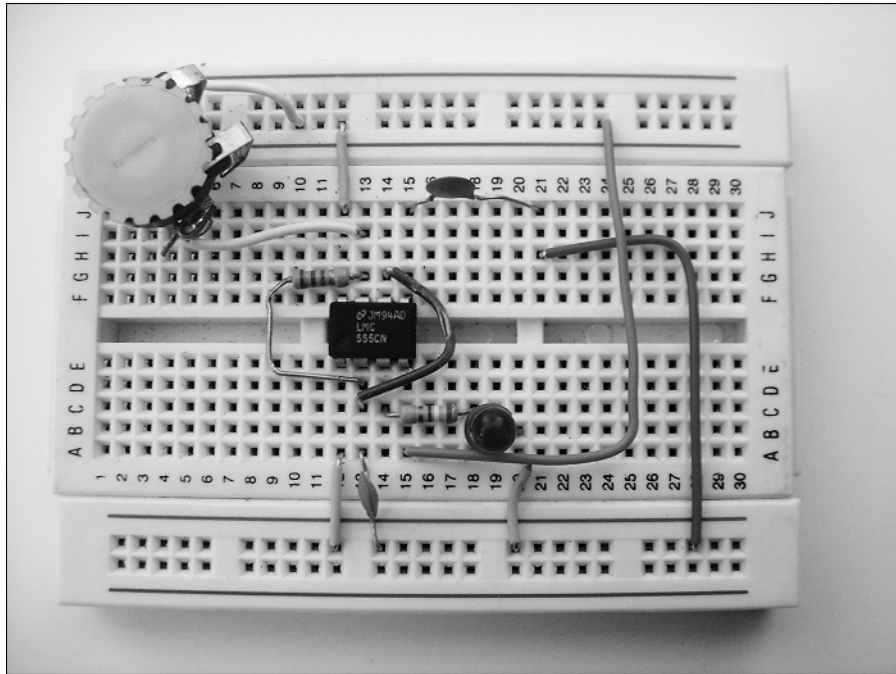

Figure 14-2:
It's easy to build the LED flasher circuit. Use the schematic you see in Figure 14-2 as your guide. Note that we added a bit more space between components so that it's easier for you to see where all the parts go. You should usually build in a little bit of space, rather than squeezing things together, so you can see what you're doing.
3. Insert the two fixed resistors, R2 and R3, into the board, following the schematic and the sample breadboard in Figure 14-2.
4. Insert the two capacitors, C1 and C2, into the board, following the schematic and the sample breadboard in Figure 14-2.
Folks commonly refer to these wires as jumpers; most of the circuits you build will have at least one or two. Use the sample breadboard in Figure 14-2 as a guide to making these connections.